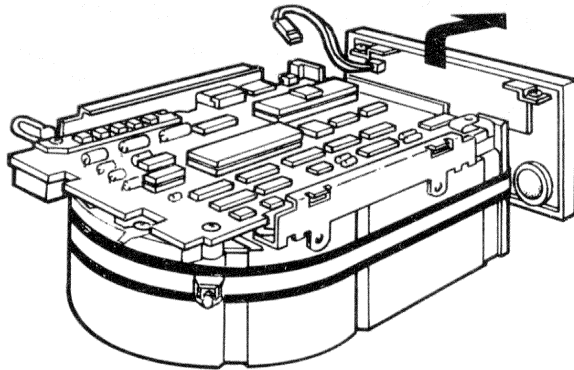

Figure 6-10 Front Bezel Removal
4. Remove the front bezel by pulling it away from the drive. The bezel is held in place with pop fasteners. (Figure 6-10)